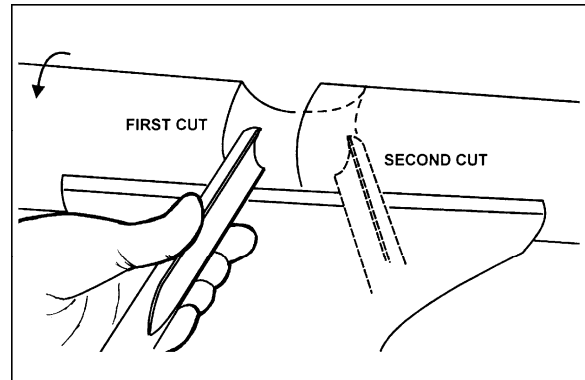

Figure 27
1. Use a spindle gouge. With the flute of the tool at 90 degrees to the workpiece, touch the point of the tool to the workpiece and roll in towards the bottom of the cove. See Figure 27. **Stop at the bottom; attempting to go up the opposite side may cause the tool to catch.**